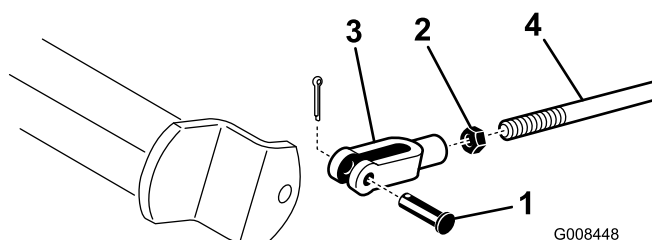

Figure 47
2. If the brakes do not lock equally, disconnect the brake rods by removing the cotter pin and clevis pin (Figure 47).
3. Loosen the jam nut and adjust the clevis accordingly (Figure 47).
4. Assemble the clevis to the brake shaft (Figure 47).